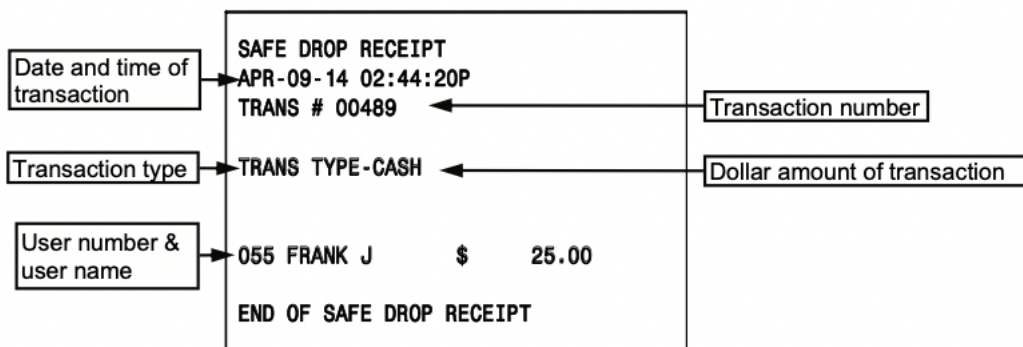

Figure 09
9. If the system is configured to print a **SAFE DROP RECEIPT**, Figure 09, it will be printed at that time. A separate receipt will be printed for each safe drop made.